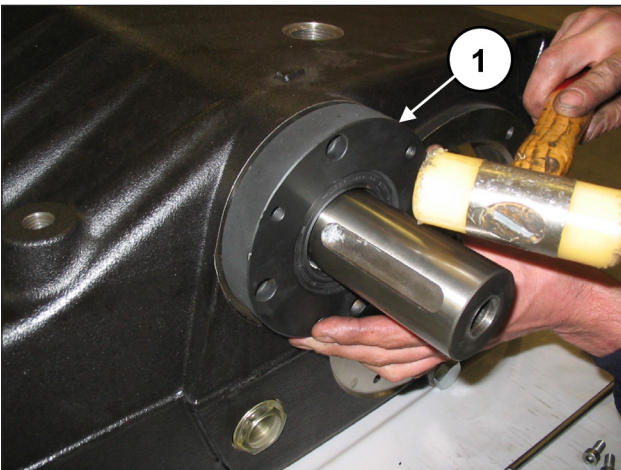
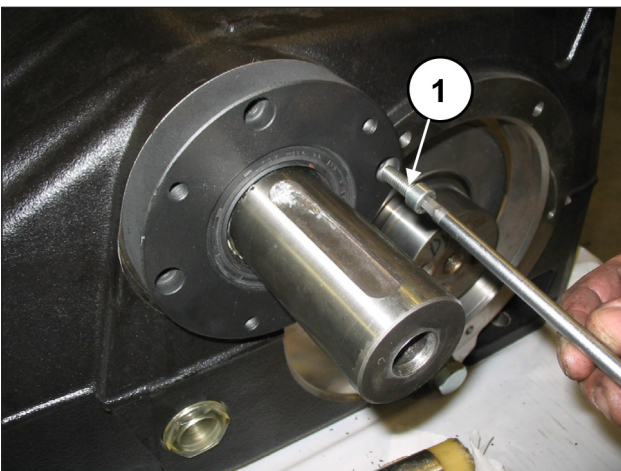

Fig. 67
Fig. 68
Mount one of the PTO bearing covers (left or right) on the pump casing (pos. ①, Fig. 67) and fasten it with 4 M8x30 screws (pos. ①, Fig. 68).
Mount the missing PTO bearing cover on the pump casing (pos. ①, Fig. 67) and fasten it with 4 M8x30 screws (pos. ①, Fig. 68).